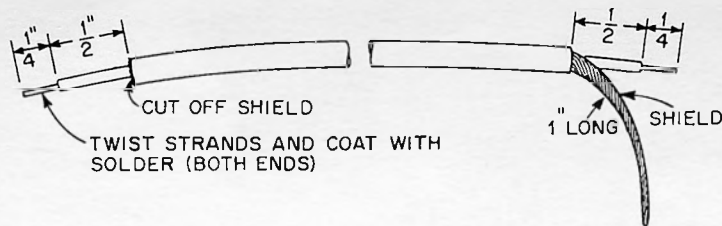

FIGURE 18. CABLE PREPARATION
- Prepare two 11" lengths of shielded cable as shown in Figure 18.